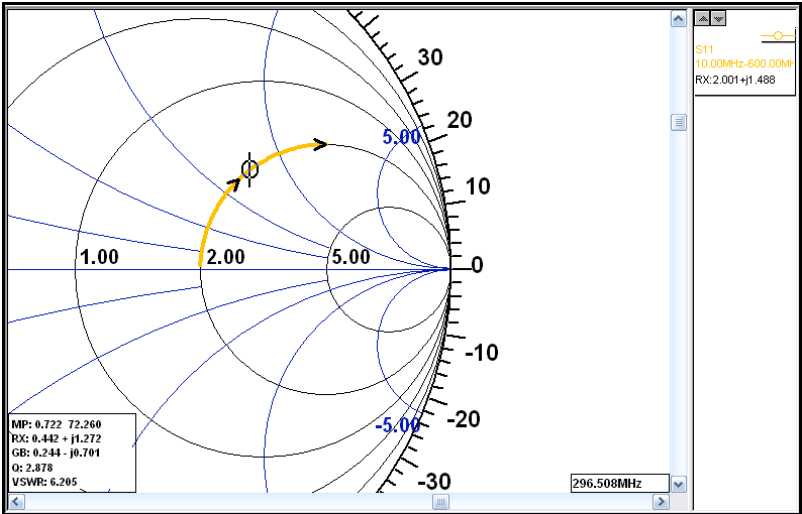

Figure 15. Reading the impedance at 296.508 MHz.
- 28. Right click again and select **Data Marker**. The highlighted curve should turn to yellow with a marker circle. Right click again and select **Marker Scale >** and select **Imp Scale**. Move the marker with the arrow keys to approximately 300 MHz. The value of S_{11} is used to calculate the normalized impedance in rectangular form using Eqn. 2 of Lab VI assuming that Z_0 is 50Ω . The results are displayed in the upper right corner as shown in Fig. 15. Record. Multiply by 50 to denormalize.